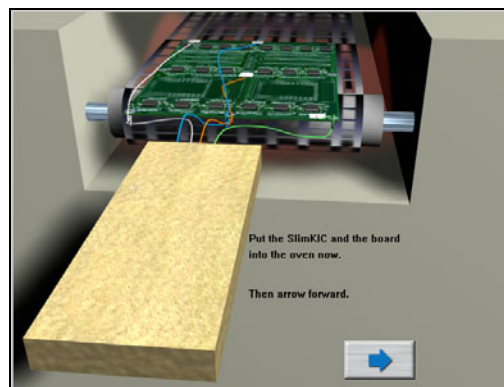

Figure 56
**If your answer is YES** it will prompt you to place the *KIC Profiler* and *profile board* into the oven. See Figure 56.